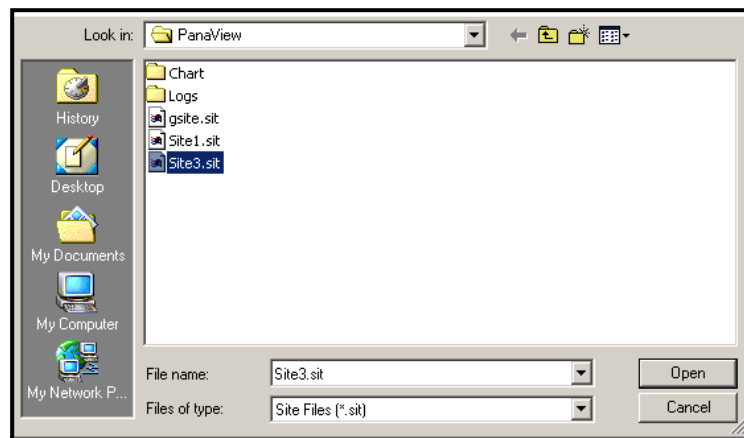

Figure 52: Site File Selection
2. Then click on the [Save Site to Meter] button. A screen similar to *Figure 52* below opens.
5. The *Site File Selection* window (*Figure 52 on page 103*) opens. Highlight a site file with the desired settings, and click [Open]. The site file becomes the *Working* site in the meter with the desired settings.
2. Click [Save Site to PC]. A window similar to *Figure 52 on page 103* opens.
1. Highlight the site in the left pane. (see *Figure 52 on page 103*.)
3. The *Site File Selection* window (shown in *Figure 52 on page 103*) opens. Enter the desired site name (now with a .prt suffix) and click on [Save]. PanaView displays a text version of the site, as shown in *Figure 54* below.